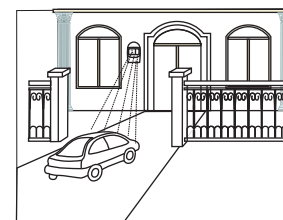

Fig.3
3. Hang the pir sensor at the entrance of your driveway (such as on a mailbox, on a tree or on a ground stake). You may also place the pir sensor on your garage, near the front entrance or rear door. Any movement nearby will transmit a signal to the receiver chime unit triggering it to signal the chime.(Fig.3)